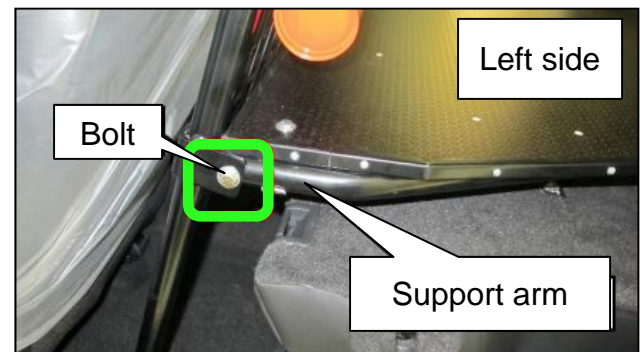
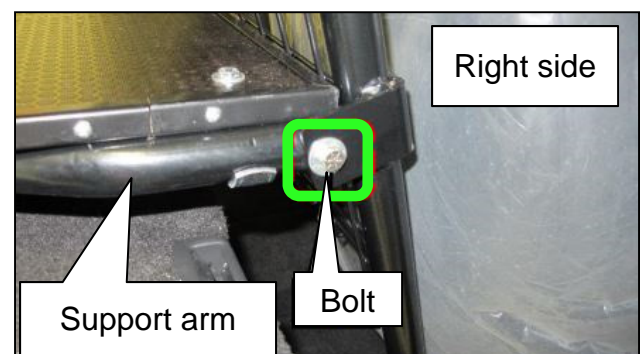

Figure 9
Figure 10
16. Remove the support arm to partition mount bolts/washers and nuts from both sides (Figure 9 and Figure 10).